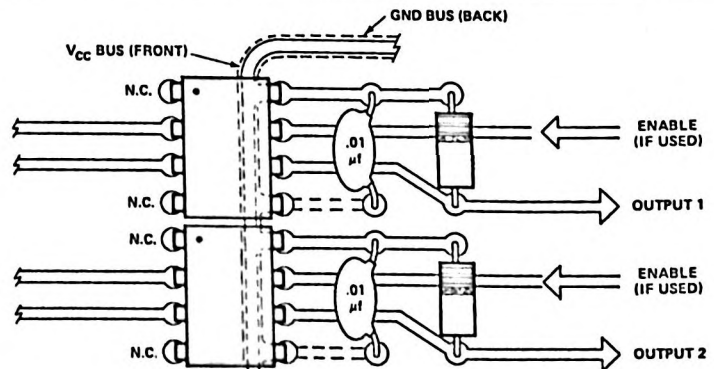

Figure 15. Recommended Printed Circuit Board Layout.
1. Bypassing of the power supply line is required, with a 0.01 μ F ceramic disc capacitor adjacent to each isolator as illustrated in Figure 15. The power supply bus for the isolator(s) should be separate from the bus for any active loads, otherwise a larger value of bypass capacitor (up to 0.1 μ F) may be needed to suppress regenerative feedback via the power supply.